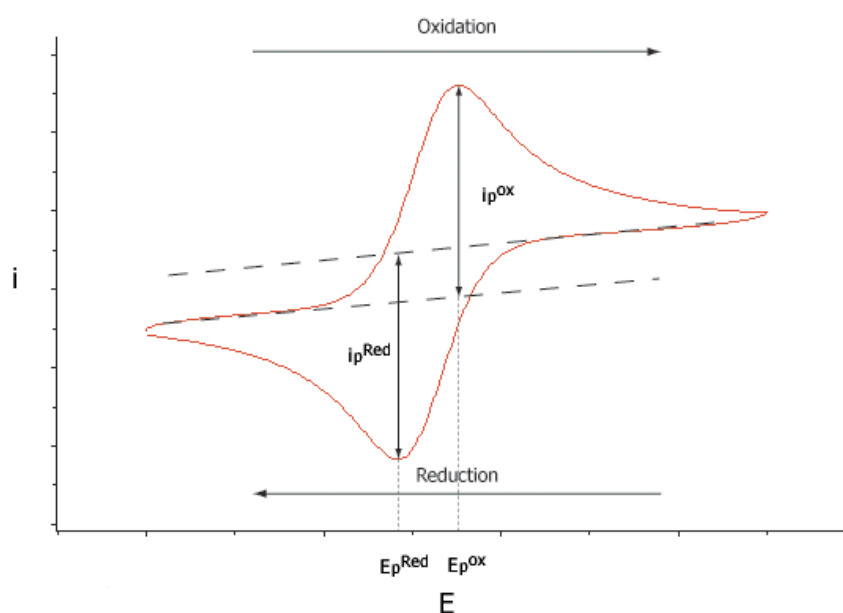

Figure 2.2 A typical cyclic voltammogram for a reversible single electron transfer
Currents generated by the oxidation and reduction reactions at the working electrode are measured and plotted against applied potential on a cyclic voltammogram (CV). **Figure 2.2** shows the shape of typical CV for a single electron transfer process. Cyclic voltammograms are characterised by peak potentials, E_p , at which the current reaches a local maximum or minimum and the value of the peak current, i_p , at these points.